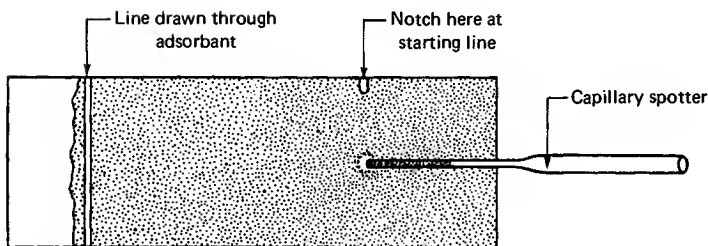

Fig. 91 Putting a spot of compound on a TLC plate.
4. Take a sharp object (an old pen point, capillary tube, spatula edge, etc.) and *draw a straight line through the adsorbant*, as close to the clear glass end as possible (Fig. 91). Make sure that it runs all the way across the end of the slide and goes right down to the glass. This will keep the solvent from running up to the ragged edge of the adsorbant. It will travel only as far as the smooth line you have drawn. Measurements will be taken from this line.